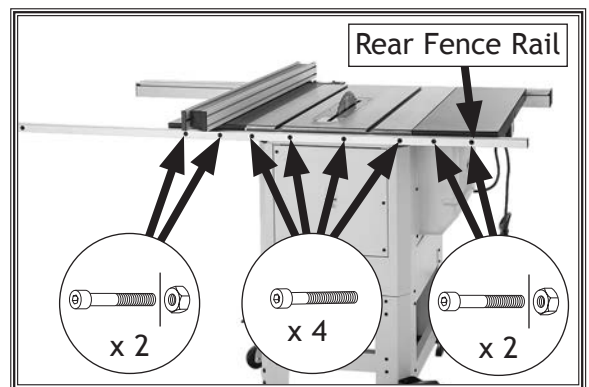

Figure 25. Mounting rear fence rail.
- 15. Install rear fence rail on rear of table using (8) M8-1.25 x 25 cap screws, as shown in **Figure 25**. Secure outer four cap screws with M8-1.25 hex nuts.